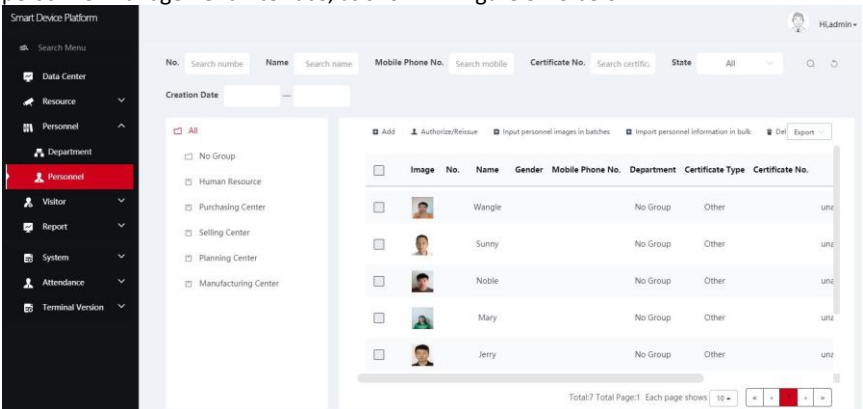

Figure 5-48
Step 1: In the smart device platform interface, click "Personnel→Personnel" to enter the personnel management interface, as shown in Figure 5-48 below.